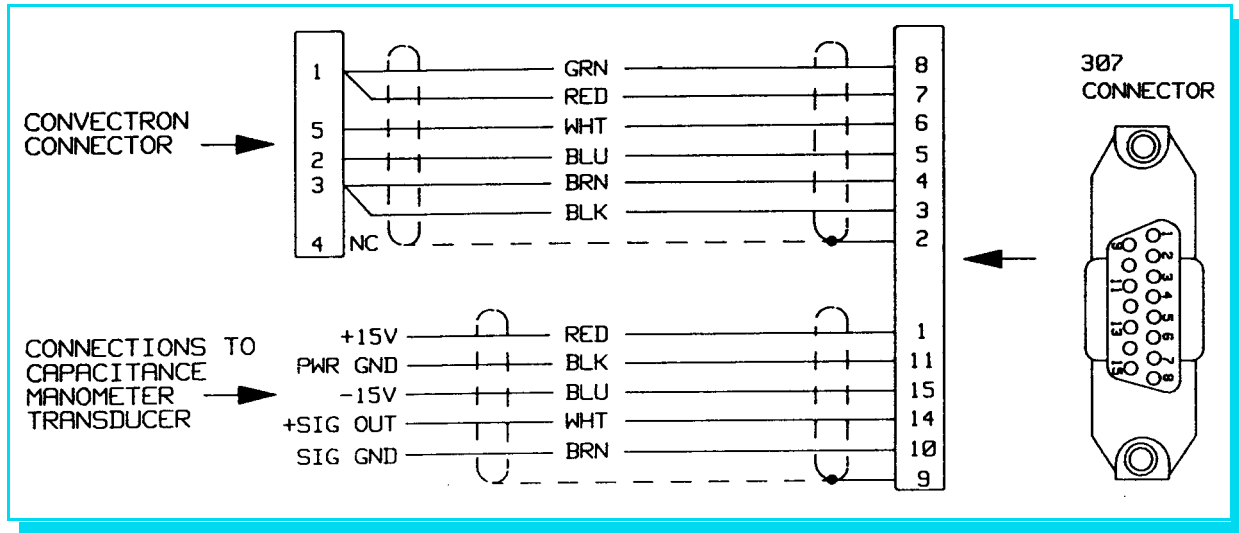

Figure 8-3 Capacitance Manometer Module, Cable.
The cable supplied by Helix Technology for this module connects to both a Convectron gauge and a capacitance manometer. Since electrical connectors to capacitance manometers are not standardized, Helix Technology provides cables terminated with tinned wire leads. Figure 8-3 on page 8-3 shows the color-coded functions of the wires. Please consult the manual for your capacitance manometer transducer for information on electrical connection, and installation of the transducer in your vacuum system.
1. Be sure the transducer was zeroed properly on initial installation, see your transducer documentation. Connect the cable from the 307 VGC to the capacitance manometer transducer per Figure 8-3 on page 8-3.